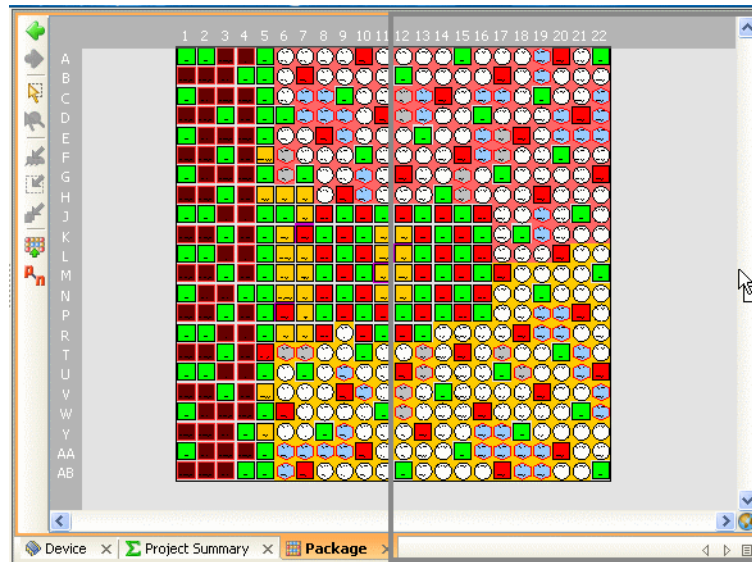

Figure 8-2: Splitting the Workspace to Display Package and Device Views
- Select either view tab and drag it to the very far right scroll banner of the workspace. A grey rectangle displays where the view would be placed. Position the cursor so that the Workspace view arrangement is to your liking and click the cursor to move the view and split the workspace. Figure 8-2, page 241 shows and example of a split view. This same technique works with many of the views.